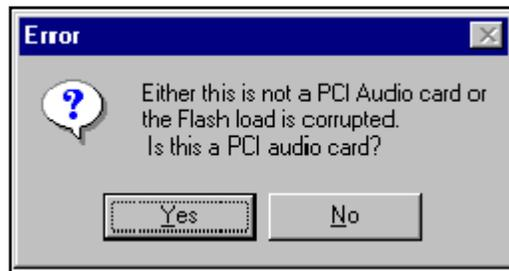
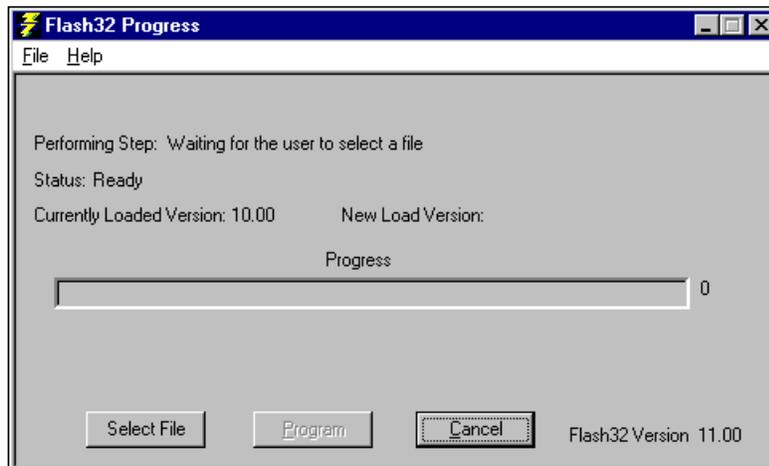

Figure 279. Flash32 error message
Figure 280. Flash32 Progress dialog box (Performing step)
3. Type `c:\mpxbase\tools\flash32` and press **Enter** to display the Flash32 Progress dialog box shown in Figure 280.
Note: If the audio card is not a PCI, or if the flash load is corrupted, an error message is displayed, as shown in Figure 279. If you are sure the position has a PCI audio card installed, select Yes to proceed. Otherwise select No. Selecting No takes you to the Flash32 Progress dialog box shown in Figure 280. To return from there to the Windows 95 desktop, select Cancel.